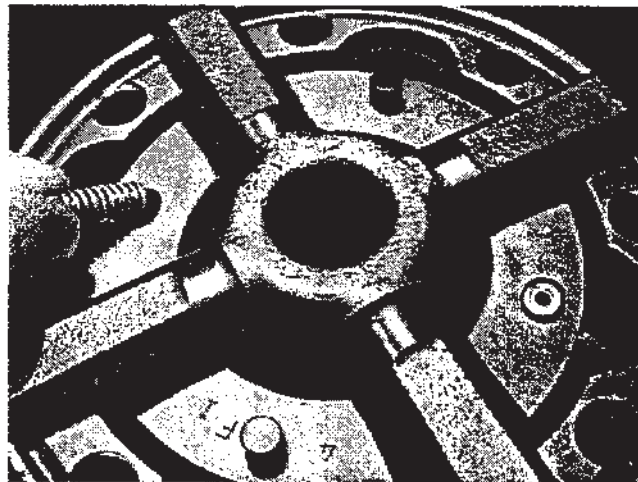

Figure 5
4. Place a spring assembly into each spring hole and place a pin into each of the round pin holes (**Figure 5**).